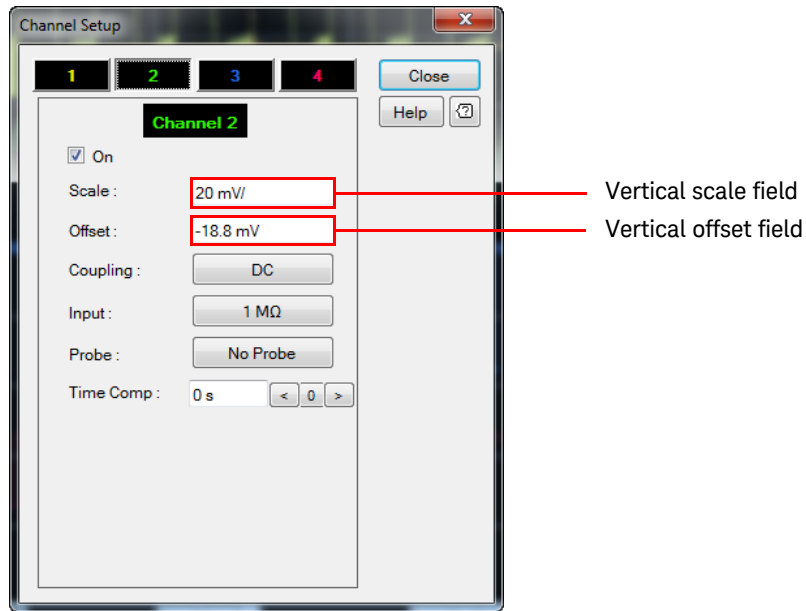

Figure 2-12 Vertical scale and offset field for the video input channel
- 4 For video input channels, select the vertical scale field on the Channel Setup dialog to adjust the vertical scale as shown in Figure 2-12.
- 5 Select the vertical offset field on the Channel Setup dialog to adjust the vertical offset as shown in Figure 2-12.